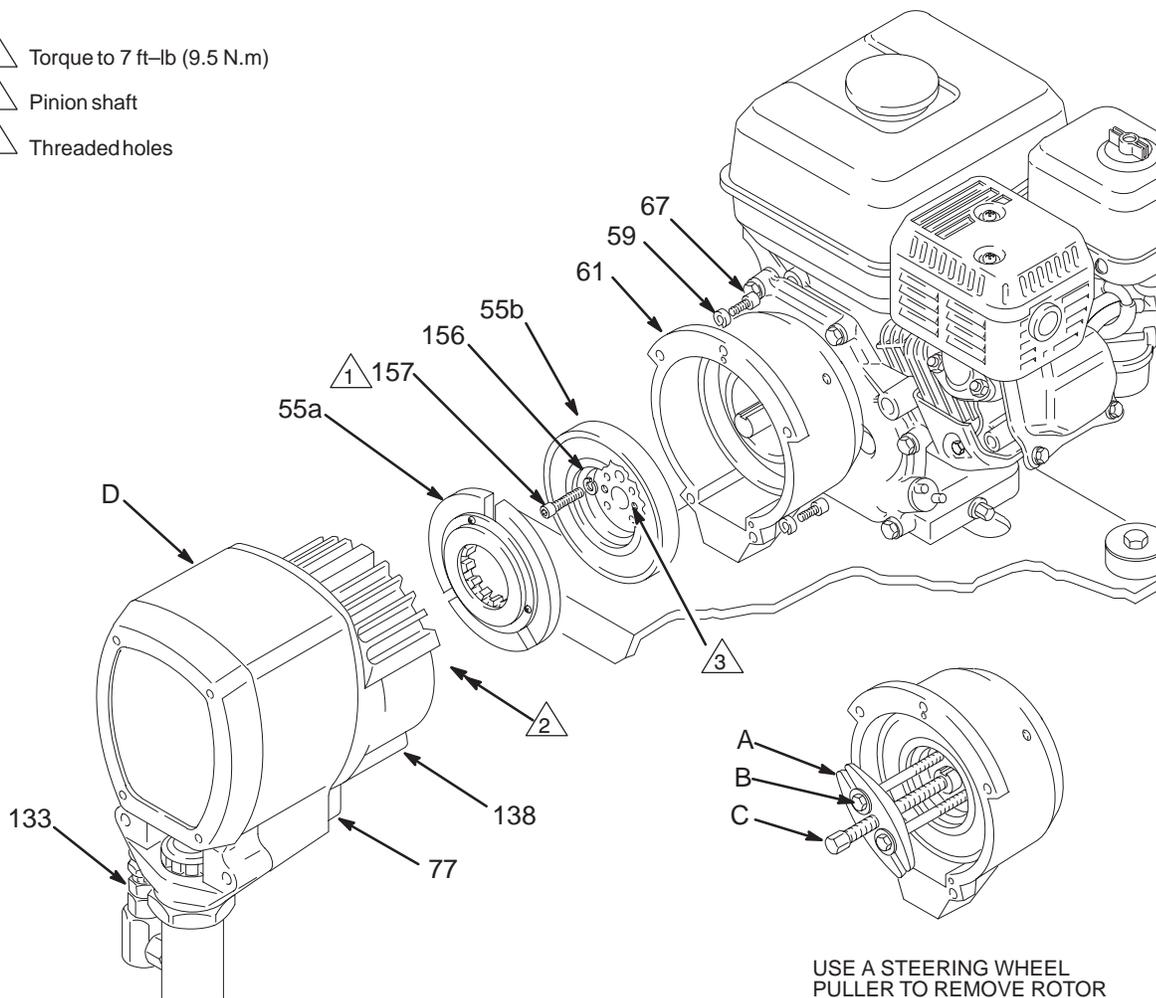

Fig. 33
2. Disconnect the hose (133) from the displacement pump.
3. Remove the bottom two screws (67) from the clutch housing (61) and then remove the remaining three screws (67).
4. Tap lightly on the back of the drive housing (77) with a plastic mallet to loosen the assembly (D) from the clutch housing (61). Pull the assembly away; the armature (55a) will come with it.
6. Remove the four socket head capscrews (157) and lockwashers (156). Install two of the screws in the threaded holes in the rotor (55b). Alternately tighten the screws until the rotor comes off. See Fig. 33.